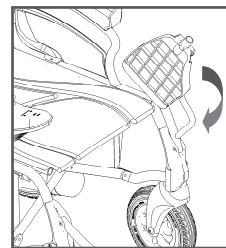
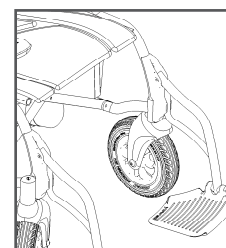

Figure 11
Figure 12
- Use of movable leg: when the electric wheelchair is provided with a movable leg, turn the movable leg from the position in Figure 11 to the position in Figure 12 along the rotational axis, ensuring that it rotates into the groove of the plastic part and open the pedal; the action sequence is reversed to folding back up. (Note: the function is only suitable for models provided with a movable leg)